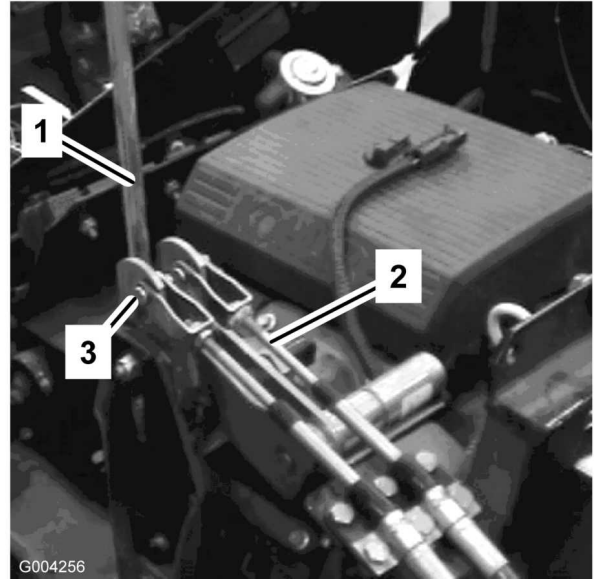

Figure 2
5. At the shift selector, remove clevis and cotter pins securing the shift cable linkage (Figure 2). Keep the clevis and cotter pins in the cable linkages.